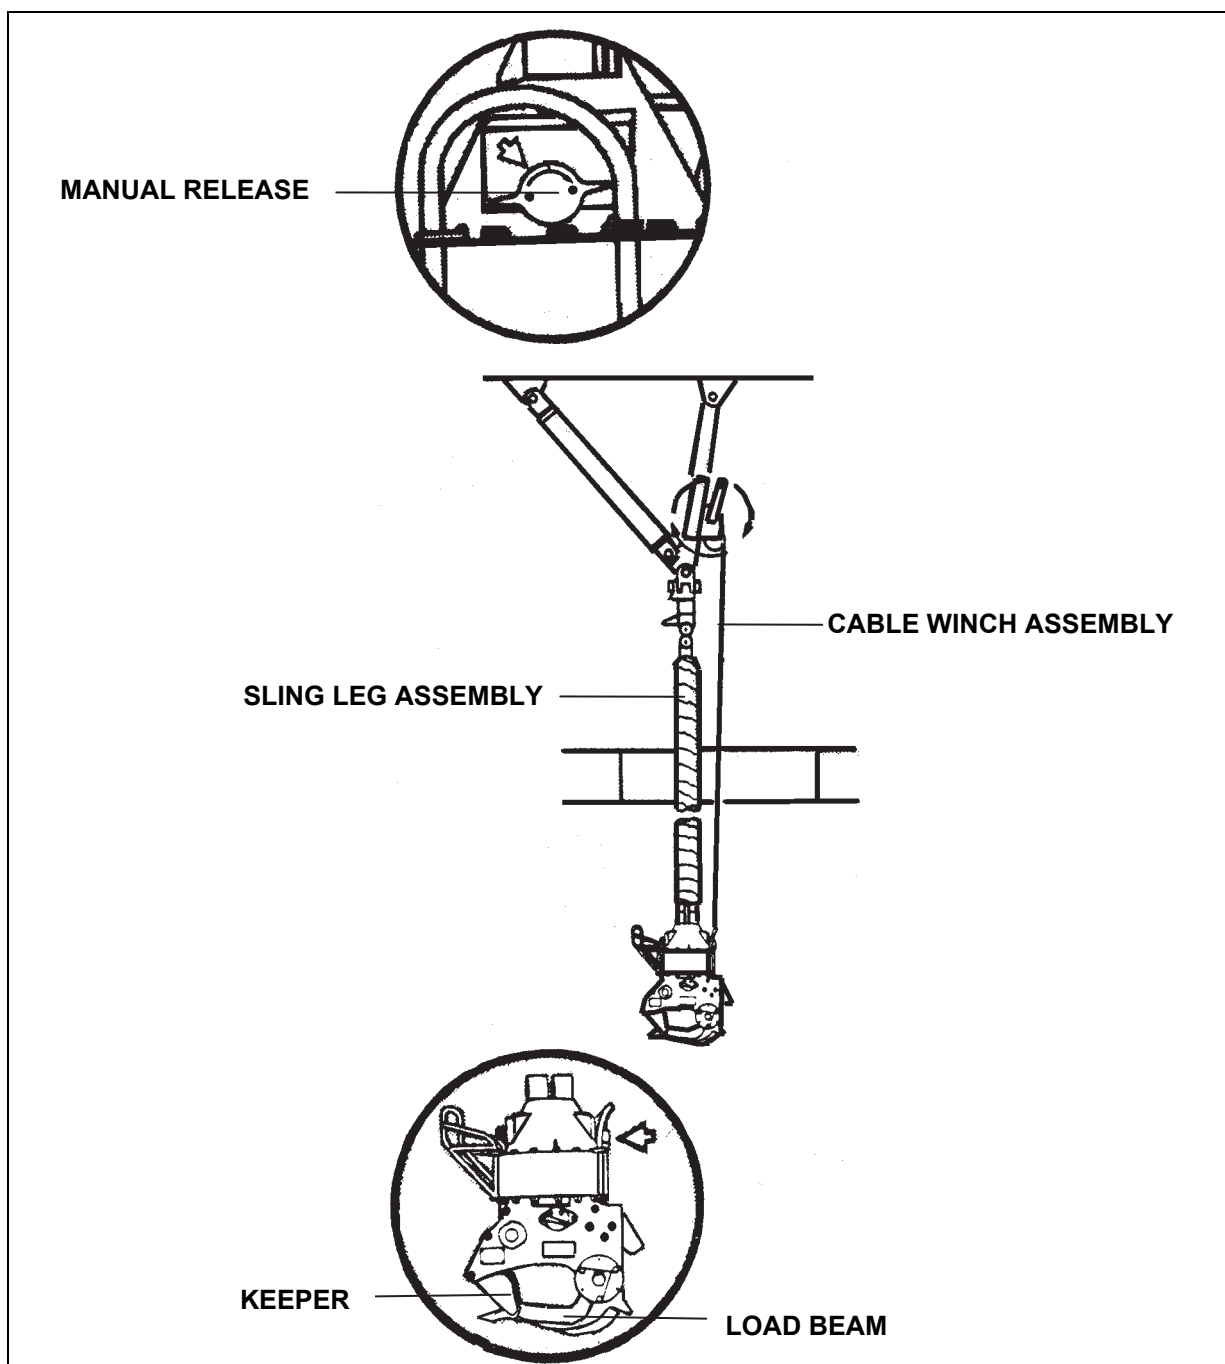

Figure 2-19. H-53E Center Cargo Hook
- The center cargo hook, suspended on the end of a pendant below the fuselage near the centerline, is used for single-point loads (figure 2-19). Even though the hook capacity is greater, the aircraft maximum lift capacity is 32,000 pounds. The aircrew can open the cargo hook manually or electrically. A manual release knob is located on a side of the top part of the hook. In an emergency, a ground crewman can open the cargo hook by rotating the knob clockwise.